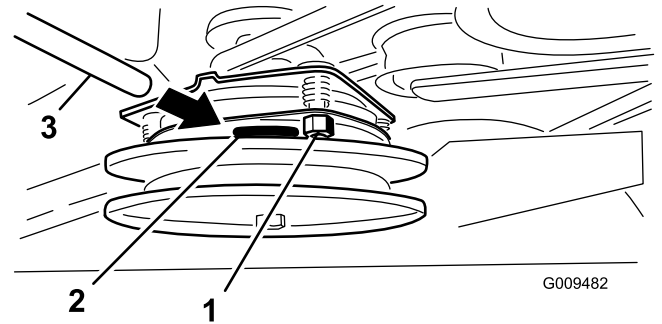

Figure 55
2. If adjustment is needed, then set at 0.381 mm (.015 inches) for each of the three adjustment slot positions. Tighten the lock nuts until there is slight binding on the feeler gauge but it can be moved easily within the air gap (Figure 55).